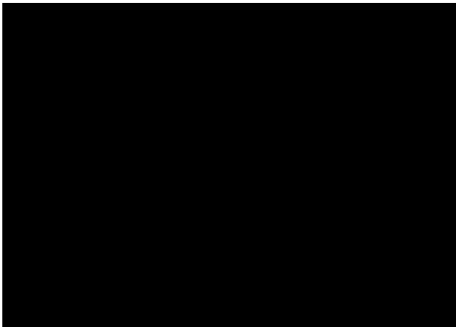

figure 10.
- When the PV Module delivery at site, check both quantity and quality of PV module. Make sure that all PV module has been pass the standard. Secondly, using forklift to lift the pallet PV Module to the stock point., as shown in figure 10.